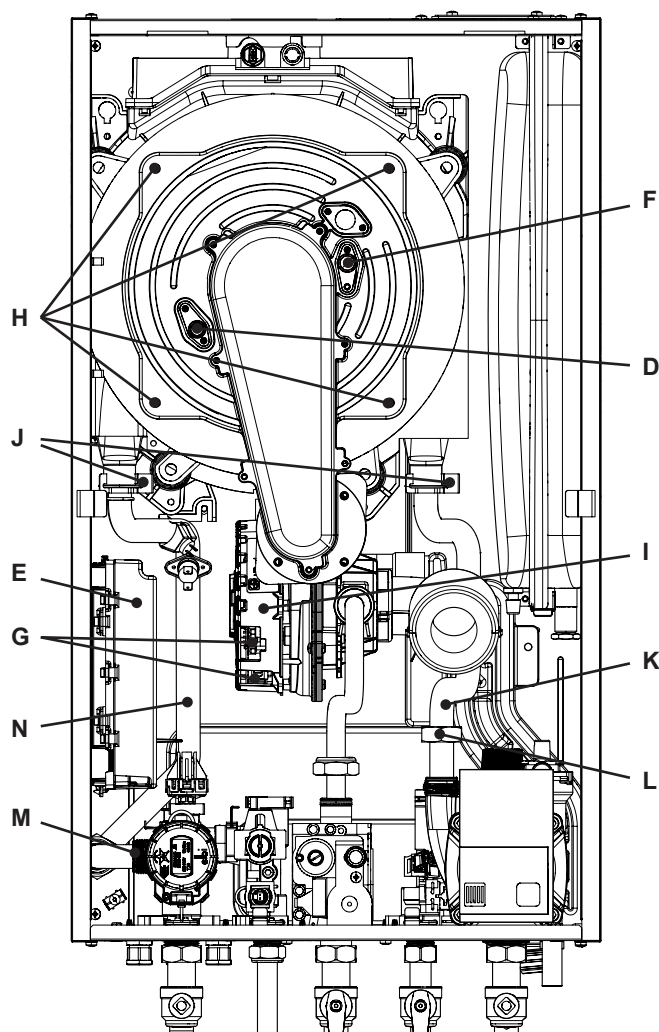

Figure 5.2
- 4 Disconnect the fan connector "G" by pressing the plastic hook placed on the side of the connector (Figure 5.2).
- 5 Unscrew the nuts "H" (Figure 5.2).
- 8 Remove the clips "J" (Figure 5.2).
- 9 Loosen the connection "L" and slightly move the pipe "K" upwards, turn it towards left (Figure 5.2) and then move the pipe downwards freeing it from the Condensing heat exchanger.
- 10 Loosen the connection "M" and slightly move the pipe "N" upwards, turn it towards left (Figure 5.2) and then move the pipe downwards freeing it from the Condensing heat exchanger.
Ensure to tighten the nuts "H" - Figure 5.2 firmly.